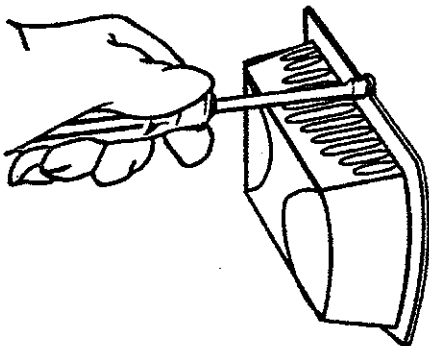

Figure 91
c. Remove protective bulb shield by using a 1/4" drive or socket wrench. See Figure 91.